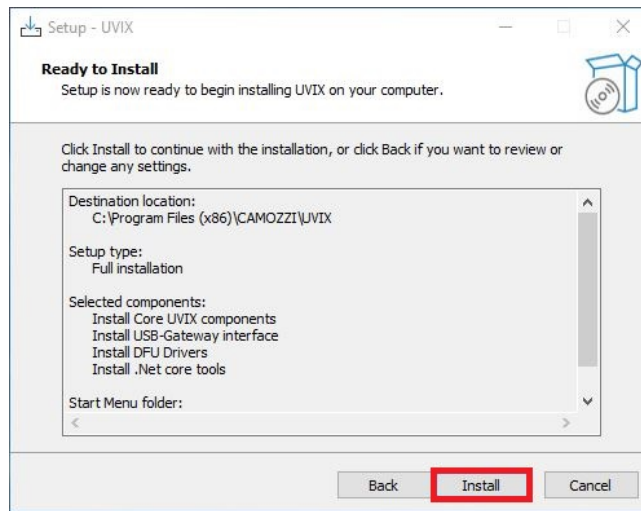

Figure 4.16: Installation Settings Summary
- 6. Verify the installation settings and click "Install," as shown in figure 4.16.